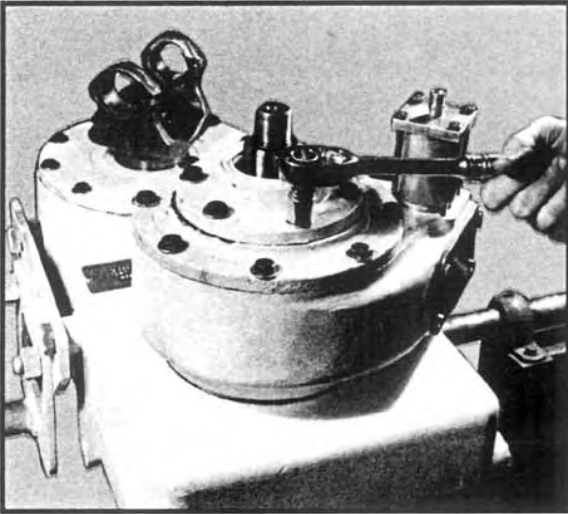

Fig 9
3. Remove the (6) cap screws and washers that secure the oil seal carrier to the front bearing carrier. See Figure 9. Lift off the seal carrier and discard the gasket.